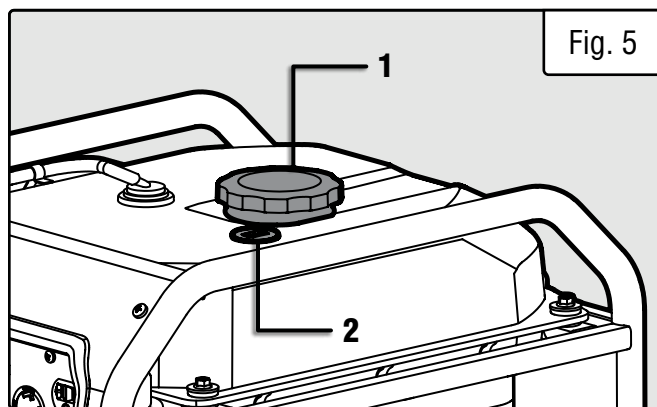

Fig. 5
1. Make sure the generator is shut OFF and on a level surface. Unscrew the fuel cap (Fig. 5 - 1) and set it aside. The fuel cap may be tight and hard to unscrew.
Check the fuel gauge (Fig. 5 - 2) on top of the fuel tank. If the fuel level is low, refill the fuel tank before starting your generator for the next time.